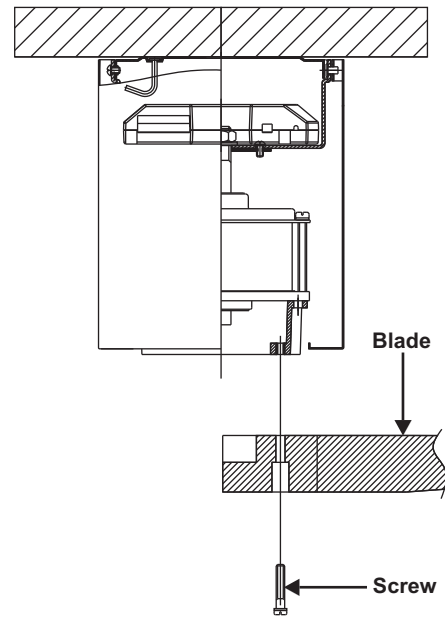

Figure 11
1. Fasten blade to motor using the screws supplied. (Fig. 11)